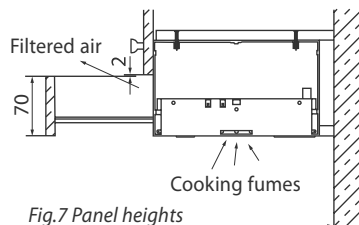

Fig.7 Panel heights
Ensure the overhead cabinets are built according to Fig.7 (below).
If the rangehood is to be installed as a recirculated hood, first ensure the cabinets are built according to Fig.7 below:
- 4 Replace front handle "B" with the replacement handle "C". See Fig.7 for height of handle.